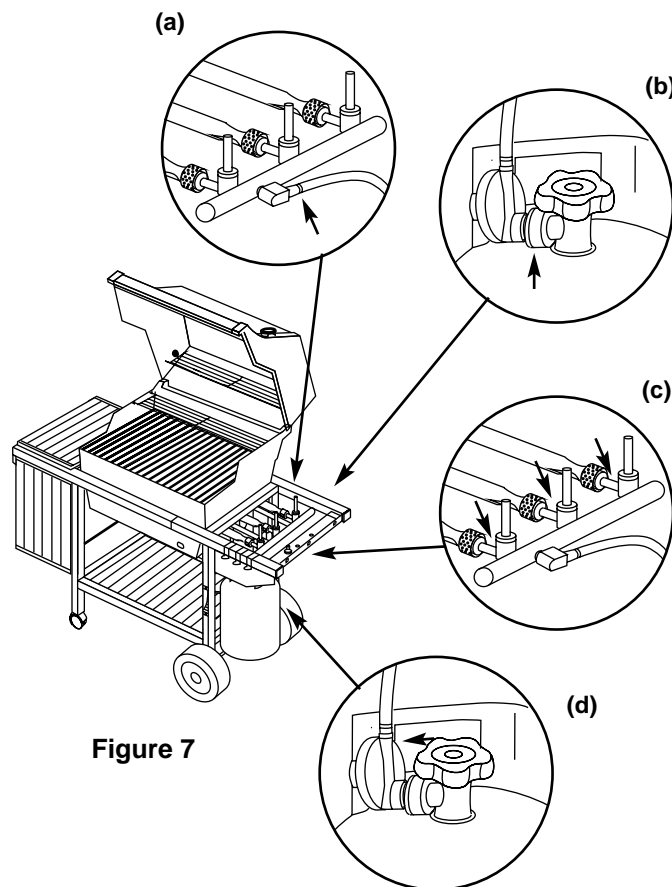

Figure 7
c) Valves to manifold connections. Figure 7 (c).
d) The hose to regulator connection. Figure 7 (d).